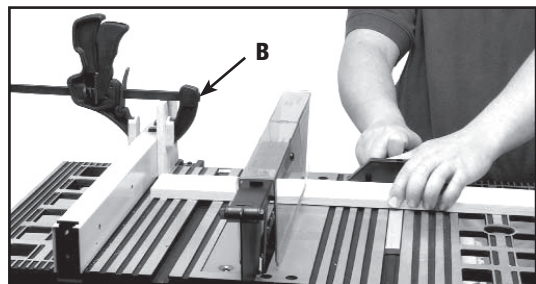

Fig. 39B
When cross-cutting a number of pieces to the same length, a block of wood (B) Fig. 39B can be clamped to the fence and used as a cut-off gauge as shown in Fig. 39B. It is important that this block of wood always be positioned in front of the saw blade as shown. Once the cut-off length is determined, secure the fence and use the miter gauge to feed the work into the cut. This block of wood allows the cut-off piece to move freely along the table surface without binding between the fence and the saw blade, thereby lessening the possibility of kickback and injury to the operator.
WHEN USING THE BLOCK (B) FIG. 39B, AS A CUT-OFF GAUGE, IT IS VERY IMPORTANT THAT THE REAR END OF THE BLOCK BE POSITIONED SO THE WORK PIECE IS CLEAR OF THE BLOCK BEFORE IT CONTACTS THE BLADE.